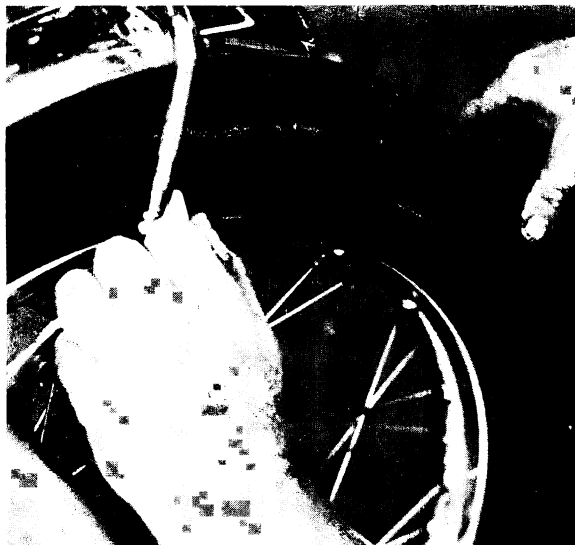

Fig. 5-11 Chalking rim on bike. Note the thin white line on side of tire showing "high" area
2. Mark the high spots and low spots with chalk. Also try to indicate the extent or range of the entire "warped" area (Fig. 5-11).